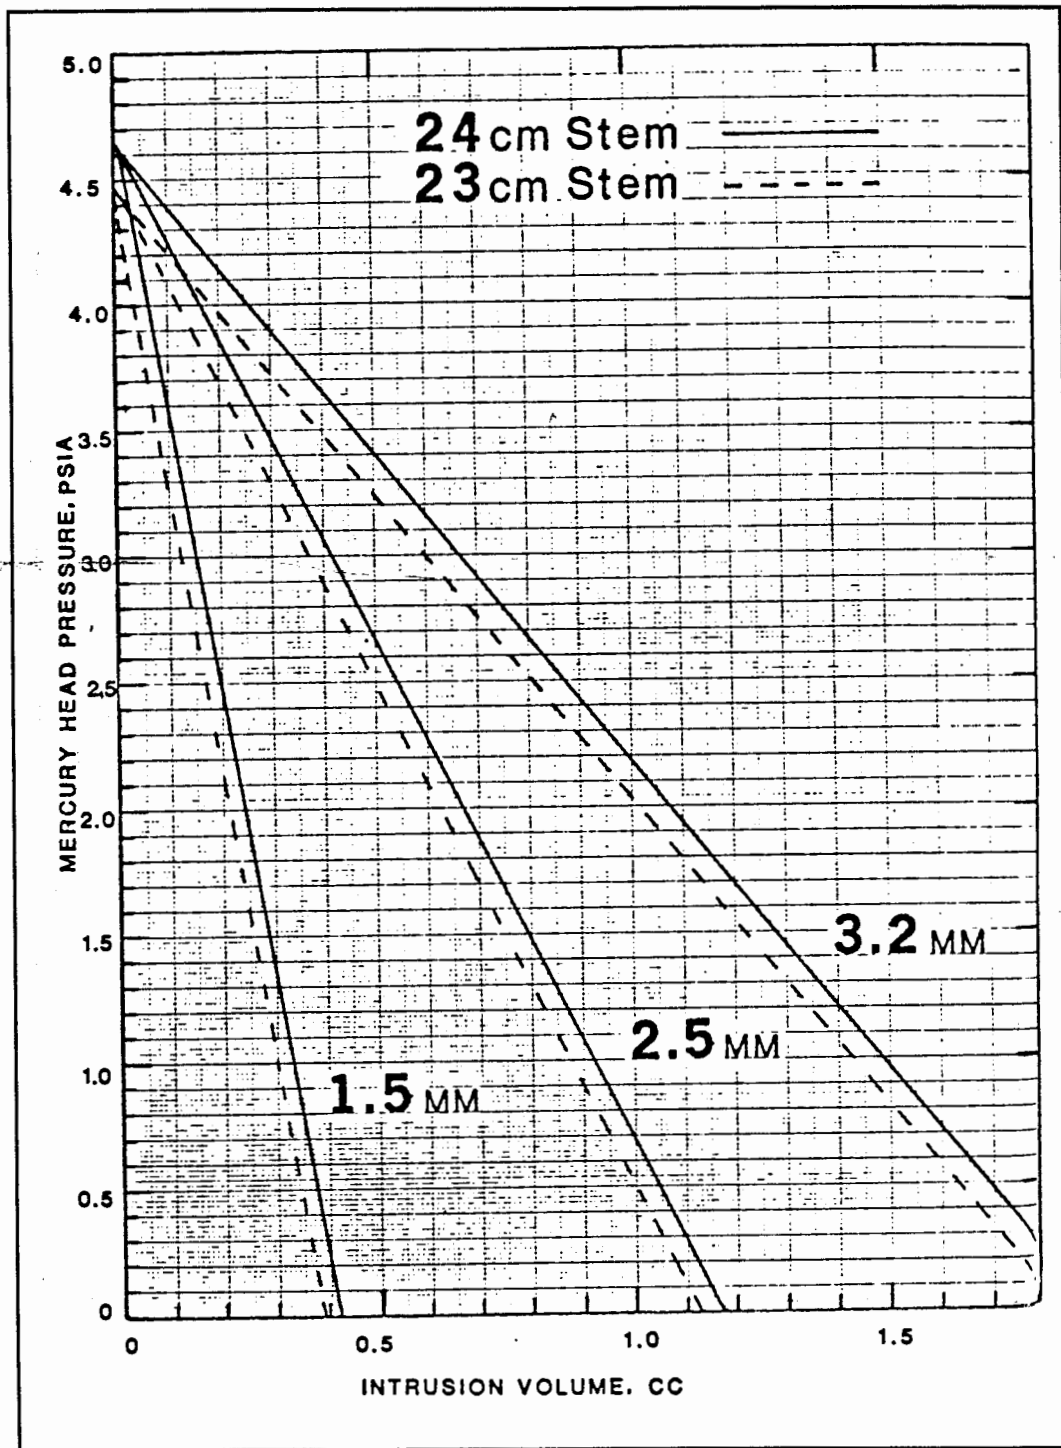

Figure D-2. Mercury Head Pressure Correction
This head correction, P_c , can be calculated as a function of intrusion volume, V , by use of the constants in Table D-1 in conjunction with equation (5), or by specific tables in Table D-2. Figure D-2 shows the relationship graphically.